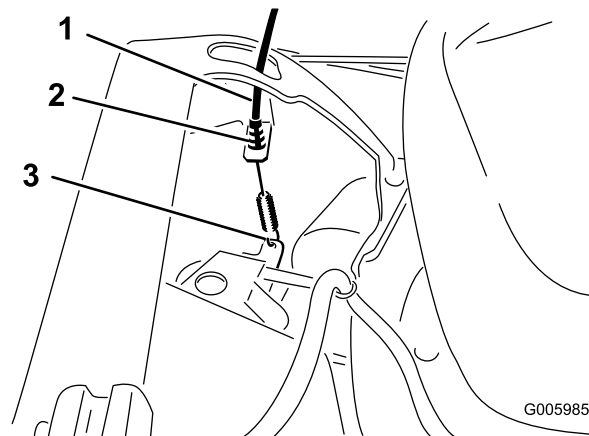

Figure 7
4. Route the self-propel drive cable around the outside of the handle, thread the cable through the opening on the left hand side of the housing, and attach the cable end (Figure 7).